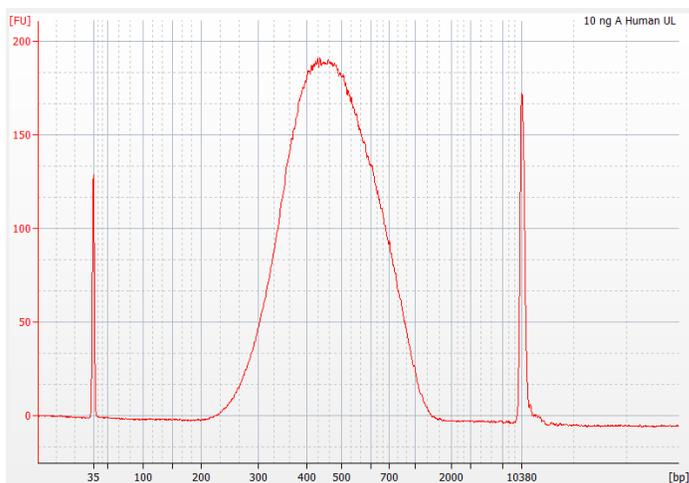
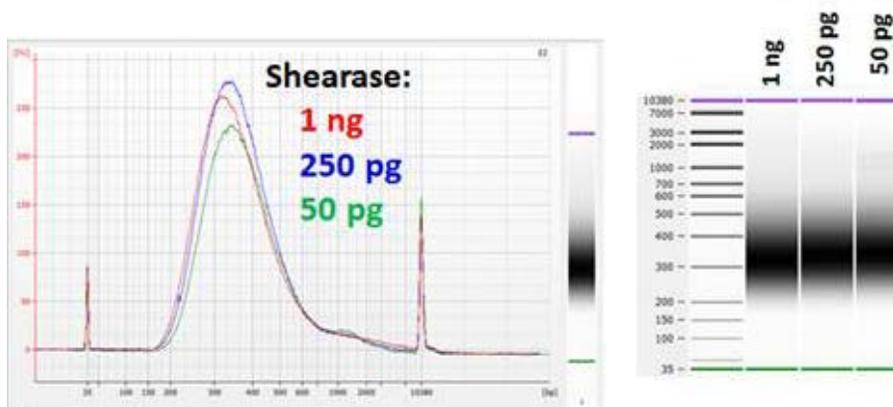

Figure 4: Typical Bioanalyzer trace for library generated using input gDNA sheared mechanically to 300 bp.
Figure 5: Typical Bioanalyzer trace for final libraries generated using input gDNA sheared enzymatically.
2. Analyze 1 μ L of final libraries on a Bioanalyzer High Sensitivity Chip to determine size distribution. Ideally, the peak should center on 420 bp for a 300 bp mechanically sheared insert. See Figure 4 for a typical Bioanalyzer trace of a library generated using gDNA initially sheared to 300 bp and Figure 5 for a typical trace of a library generated with enzymatically fragmented gDNA. The enzymatic fragmented library peak should center around 200-300 bp.